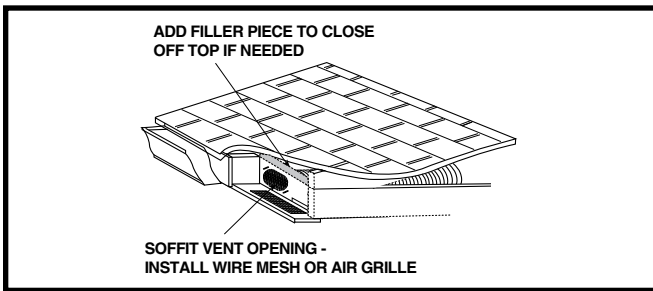

Figure 4. Installation Detail
NOTE: A 4" x 8" opening is recommended. See Figure 4.
8. Fill any space between the fitting and the roof surface with plywood or sheet metal to keep the soffit area free of insulation, as shown in Figure 4.